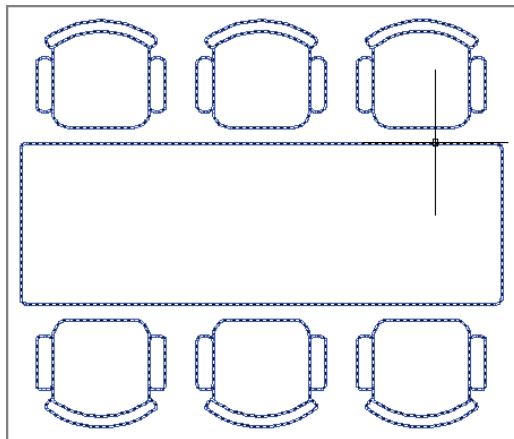

FIGURE 7.29 Reconstituted group after its constituent objects have been deleted, added, and stretched
13. Click the Group Selection On/Off toggle in the Groups panel (turning it on). Hover the cursor over the desk, and observe that the entire group is highlighted (see Figure 7.29).